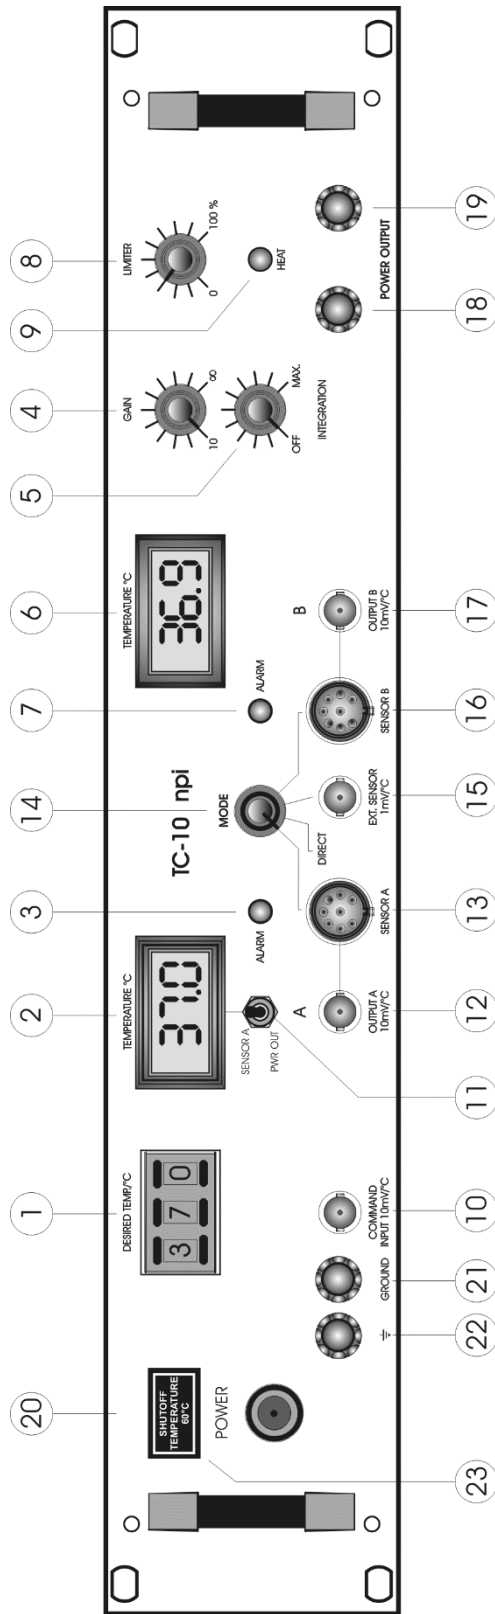

Figure 1: TC-10 front panel view
In the following description of the front panel elements each element has a number that is related to that in Figure 1. The number is followed by the name (in uppercase letters) written on the front panel and the type of the element (in lowercase letters). Then, a short description of the element is given.
DIRECT mode (no temperature control): the MODE switch (**14**, Figure 1) is set to the DIRECT position. The control unit is not active, i.e. the output voltage is preset directly at the DESIRED TEMP. control (**1**, Figure 1). With the setting from 000 to 999 the output voltage increases linearly from 0 V to 12 V. The ALARM circuit (see below) is disabled in this mode.
- ❑ The SENSOR A or SENSOR B position selects one of the internal thermometers (SENSOR A or SENSOR B) which use a small semiconductor sensor. The measured temperature is shown at the respective digital display unit (**2** or **6**, Figure 1 respectively, XX.X °C).
- ❑ If no sensor is connected or if the sensor is damaged or short circuited the internal shut-off unit disconnects the power output. This state is indicated by the red ALARM LED (**3** or **7**, Figure 1 respectively) located just above the sensor connectors.
This mode can be used to connect an external thermometer. The calibration of the external input (SENS. INPUT BNC, (**15**, Figure 1)) is 1 mV / °C. If this option is used the internal ALARM circuit is disabled.
2. If the user wants to have external control (e.g. with a computer system) the *DESIRED TEMPERATURE* can be set using the *COMMAND INPUT 10mV / °C* connector (**10**, Figure 1). The *COMMAND INPUT* is scaled 10mV / °C, i.e. +370 mV at this connector would set the *DESIRED TEMPERATURE* to +37 °C.
To avoid ground loops the internal ground of the system is floating, i.e. it is not connected to the protective earth of the line cable while the cabinet is always connected via the power supply cable (green / yellow wire). The system can be grounded by connecting plug **21**, Figure 1 (protective earth) or **22**, Figure 1 (internal ground).